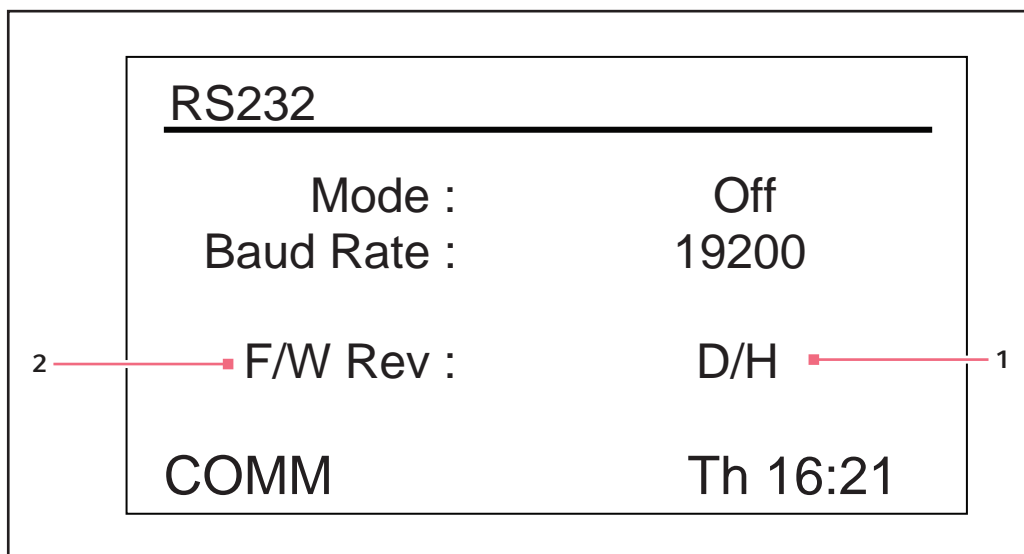

Fig. 9-7: RS232 screen
This screen (see Fig. 9-7 on p. 54) is used only if you have connected a personal computer to the RS-232 port (see *Software interfaces on p. 37*). Here you can select the RS-232 port's *Mode* and the *Baud Rate* appropriate to your PC.
1. Turn the control knob to highlight the current setting (*Off* in the sample screen, (see Fig. 9-7 on p. 54)), then click the knob in.
2. Turn the control knob left or right until the desired mode setting appears (see *Turn the control knob to highlight the current setting (Off in the sample screen, (see Fig. 9-7 on p. 54)), then click the knob in. on p. 54*).
1. Turn the control knob to highlight the current setting (19200 in the sample screen, (see Fig. 9-7 on p. 54)), then click the knob inward once.